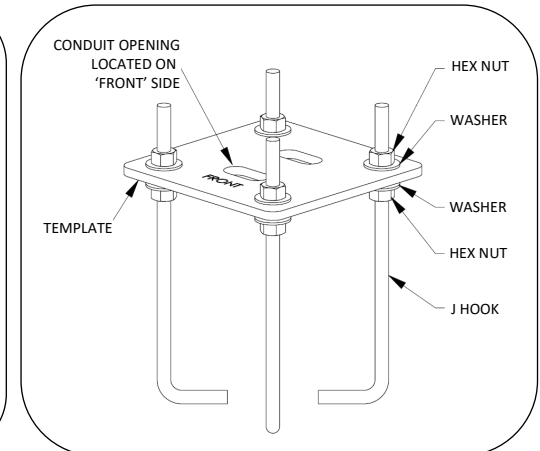

Fig. 2 – Anchor install detail
2. Install anchor hooks, hex nuts, washers and wooden template as shown in Fig 2. Level template in all directions.